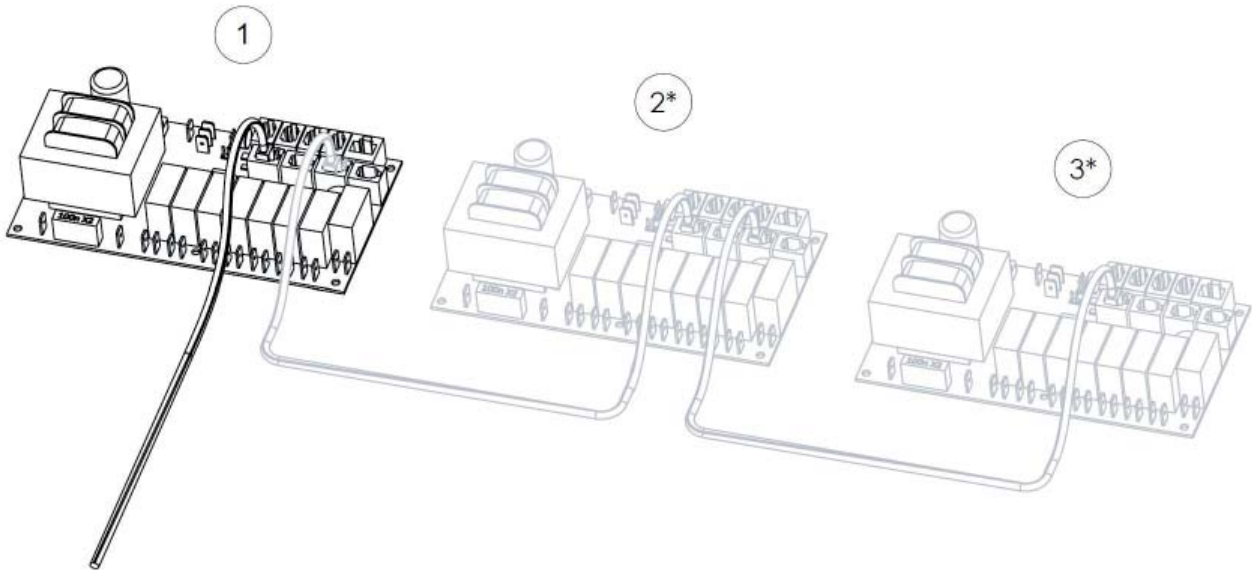
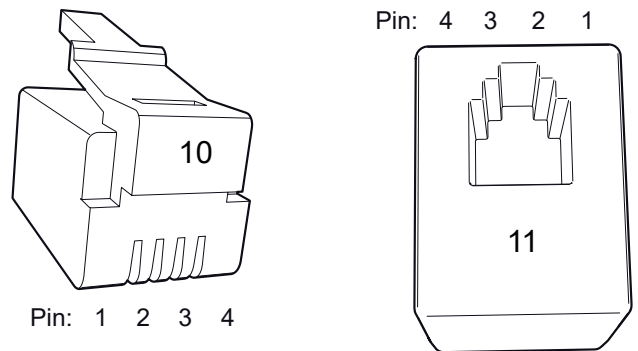

Fig. 16
Fig. 17
To connect the temperature sensor, etc., to the control panel with quick connectors, refer to the circuit board overview (Fig. 17)
The connections between the generators use a low power cable (4 core) with an RJ10 connector, (Fig. 16.) Refer to the section "Modular connector description" (Fig.17) for more information on the pin configuration.
If one steam generator needs servicing the others can remain in operation. One generator that is set as a secondary is disconnected by removing the cable from between the circuit boards. (Fig. 16)
2. Disconnect the cable that connects the control circuit boards (Fig. 16)